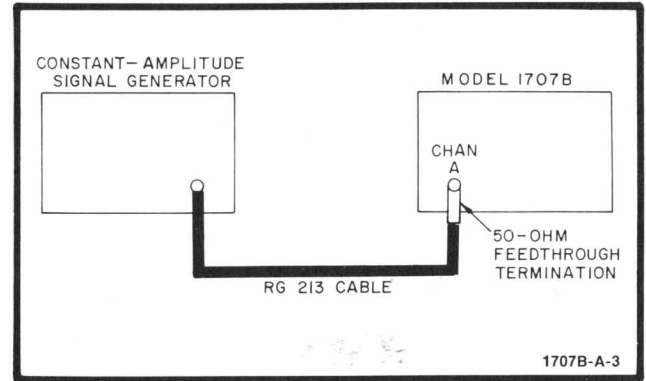

Figure 5-3. Bandwidth Test Setup
- a. Connect instruments as shown in figure 5-3.